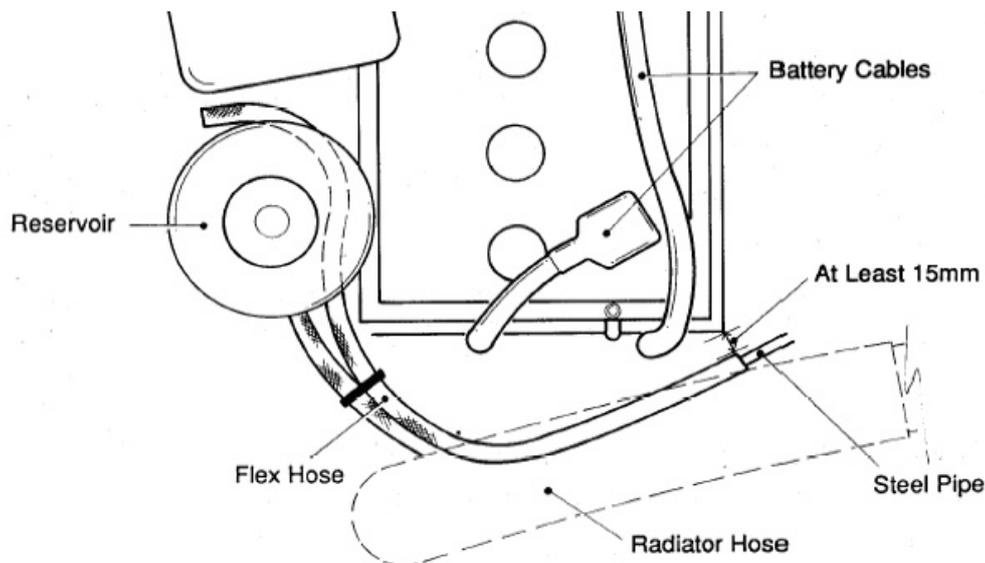

Figure 126 Rework of the Brake Vacuum Hose
- b. Check that the clearance between the flexible brake vacuum hose and the front inboard corner of the battery carrier exceeds 15 mm (Figure 126). If the clearance is less than 15 mm carefully bend the steel vacuum pipe to lead the flexible hose towards the front of the vehicle.